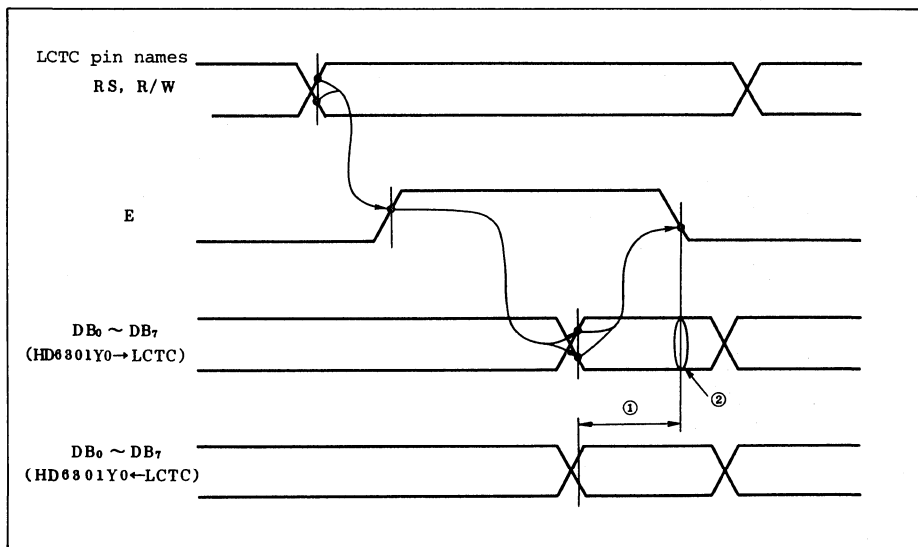

Figure 1-2. HD6301Y0 ↔ LCTC Interface
The timing chart for interfacing between the HD6301Y0 and each signal is shown in figure 1-2. ① and ② in figure 1-2 show timing for read and write.
- ① Data from LCTC can be read during ① period.
- ② Data can be written to LCTC at the falling edge of signal E.